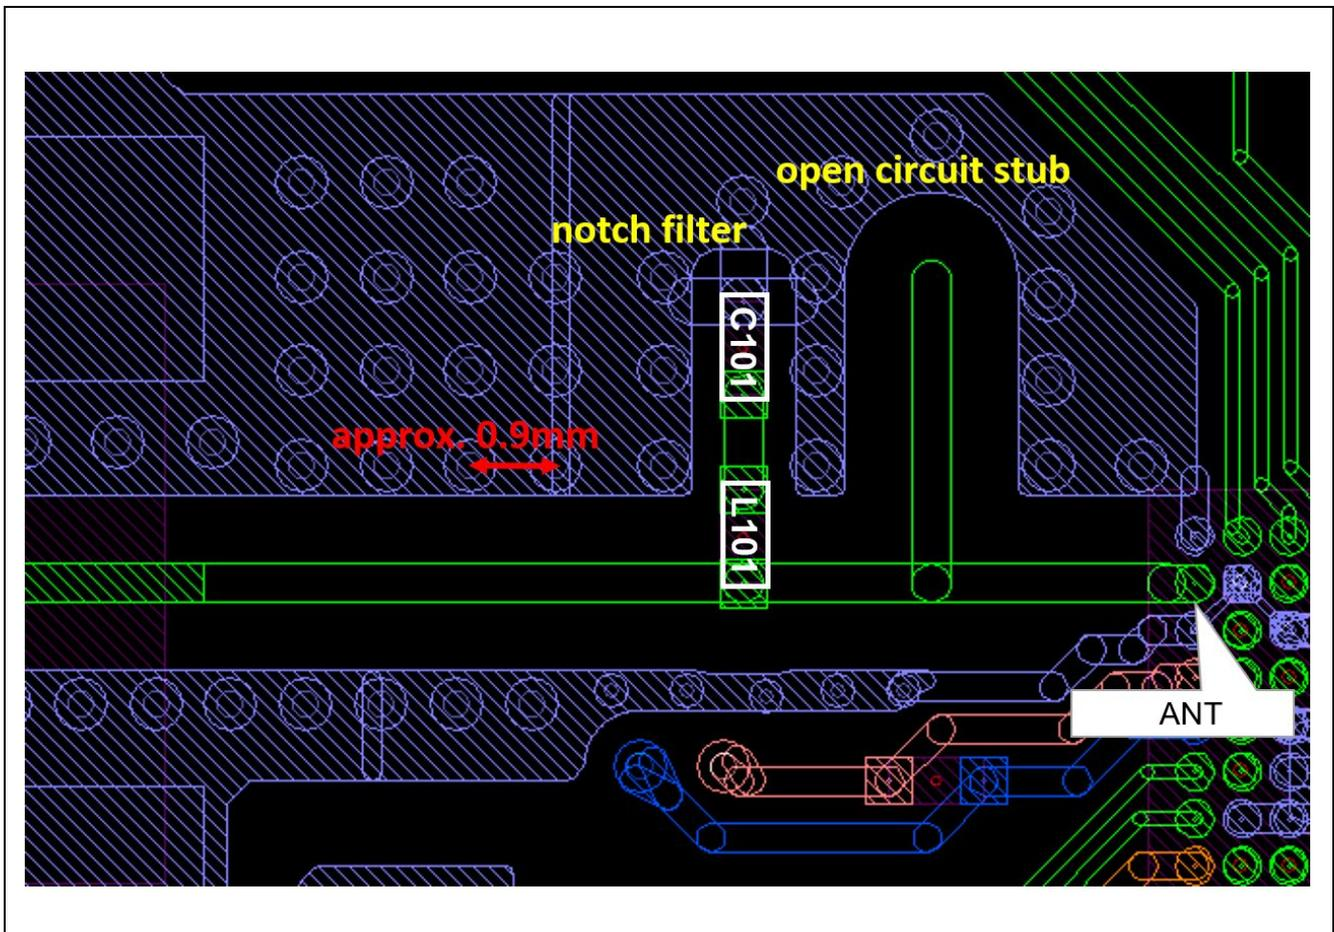

Figure 3-3 Example of the pattern around “ANT” pin
- Adjust the characteristic impedance of 50ohm for the signal line from an antenna to “ANT” pin. Optimize the width of signal line and the gap between signal line and ground pattern, considering the PCB permittivity and layer thickness. Depending on the antenna used, additional parts such as inductors or capacitors may be required. In the "Figure 3-3 Example of the pattern around “ANT” pin", the coplanar waveguide is used.
- Place vias as many as possible between the coplanar waveguide ground pattern and the solid ground. We recommend that the via spacing should be approximately 0.9mm, as shown in "Figure 3-3 Example of the pattern around “ANT” pin".
Figure 3-3 shows an example of the pattern around “ANT” pin.